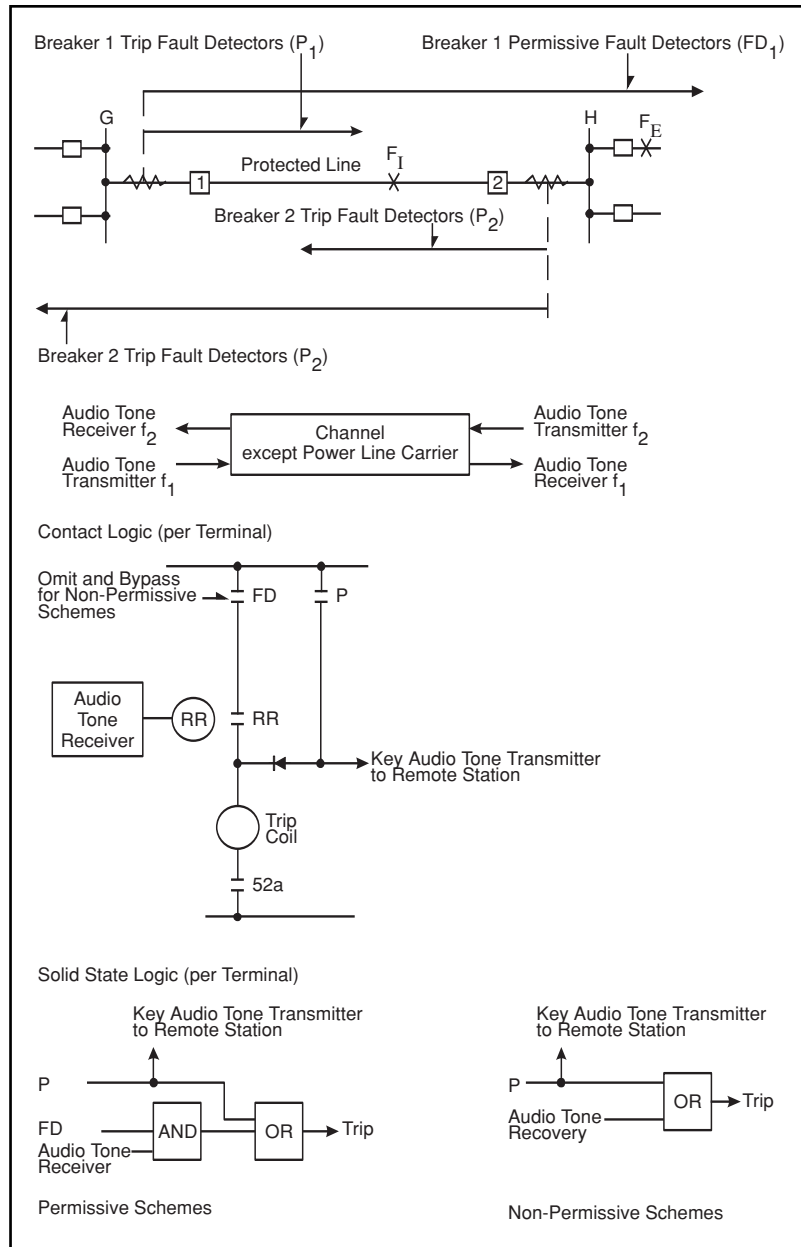

Figure 2-4. Basic Logic Diagrams for Underreaching Transfer Trip Systems.
For overreaching systems, the directional phase and ground trip fault detectors (P) must be set to overlap within the transmission line and not overreach any terminals (see Figure 2-4).
which would cause incorrect tripping. If a non-permissive system is used, the channel considerations should be as described later for direct trip systems. The system is made permissive by the additional set of phase and ground overreaching fault detectors (FD), which must operate for all internal faults (see Figure 2-4).
Operation of the underreaching transfer trip scheme shown in Figure 2-4 is described in Table 2-2 for external and internal faults.